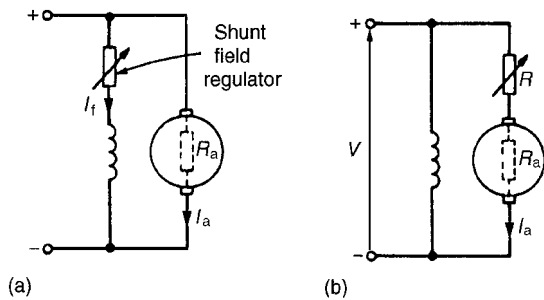

Figure 22.29
(see equation (9)). The speed is varied either by varying the value of flux, Φ , or by varying the value of R_a . The former is achieved by using a variable resistor in series with the field winding, as shown in Fig. 22.29(a) and such a resistor is called the **shunt field regulator**.
are obtained by increasing the resistance in the armature circuit, as shown in Fig. 22.29(b), where
(a) With reference to Fig. 22.29(b), back e.m.f. at 120 A, $E_1 = V - I_a R_a = 500 - (120)(0.2) = 500 - 24 = 476$ volts. When $I_a = 60$ A,